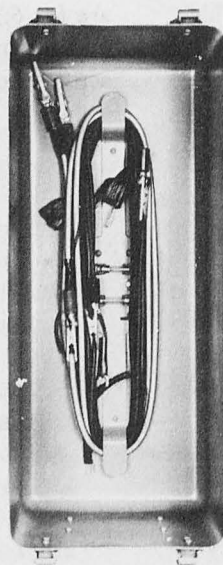

figure 3-1
c. CABLES (see figure 3-1).
(1) AC Power Cable.—A six-foot a-c power cable will be found inside the cover compartment of each equipment. This cable is fitted on one end with a standard two prong male a-c line plug and on the other end with a two prong female plug. The female plug fits into the flush male receptacle which is accessible on the rear panel of the unit. The cord must be removed from the receptacle before the top cover can be replaced.
(2) Accessories.—There are three test leads, one ten inches long and two three feet long, in the top cover. Two spare fuses will also be found in the top cover.